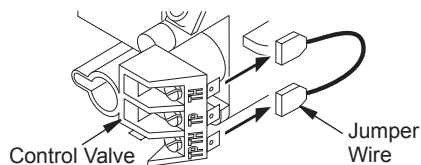

Figure 21 - Disconnecting Jumper Wire From Control Valve
7. Disconnect jumper wire from control valve at TPTH and TH locations (see Figure 21).